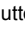

Fig. 14 Right side of the multi-function steering wheel (if equipped): Controls for the menus and information displays in the instrument cluster.
As long as a priority 1 warning message is displayed, no menus can be accessed. To display menus, press the  button on the multi-function steering wheel ⇒ fig. 14.
The instrument cluster menus are controlled with buttons on the right side of the steering wheel ⇒ fig. 14.
- If a message or the vehicle icon is displayed, push the  button (⇒ fig. 14) on the right side of the multi-function steering wheel until a main menu appears in the instrument cluster display. For a list of main menus, see ⇒ *Menu structure – overview*.
To open the menu or information display shown in the selection menu, press the  button on the multi-function steering wheel ⇒ fig. 14, or wait until the menu or information display opens automatically after a few seconds.
- Use the arrow up and down buttons  or  on the multi-function steering wheel ⇒ fig. 14 to navigate through the available options. A frame appears around the selected option.
- Push the  button (⇒ fig. 14) to select a setting.
- Press the  or  button ⇒ fig. 14.
- Use the arrow up and down buttons (⬆ and ⬇) on the right side of the steering wheel ⇒ fig. 14.